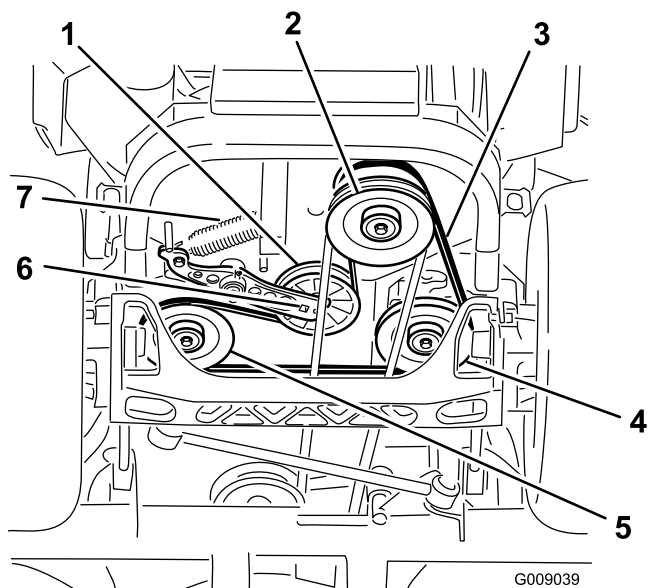

Figure 78
4. Raise the machine and support it with jack stands (Figure 78).
5. Use a ratchet in the square hole in the idler arm to remove the idler spring (Figure 78).
6. Unhook the idler spring from the frame (Figure 78).
9. Using a ratchet in the square hole in the idler arm, install the idler spring to the frame (Figure 78).